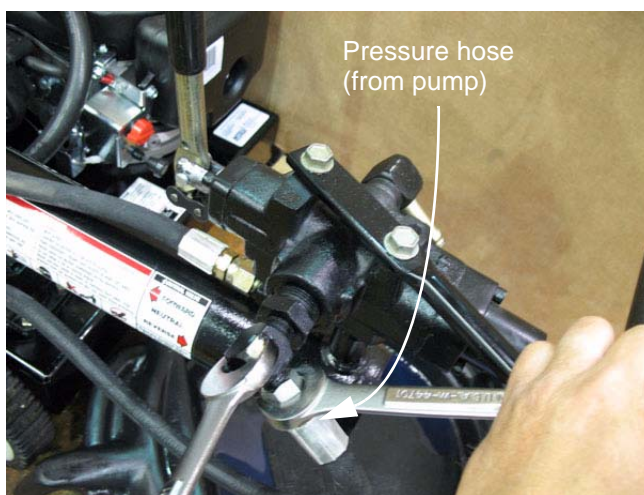

Figure 4.12
4.3. k. Holding the elbow fitting on the bottom of the control valve in a vise, rotate the control valve counter-clock-wise to remove the fitting from the valve. See Figure 4.12.